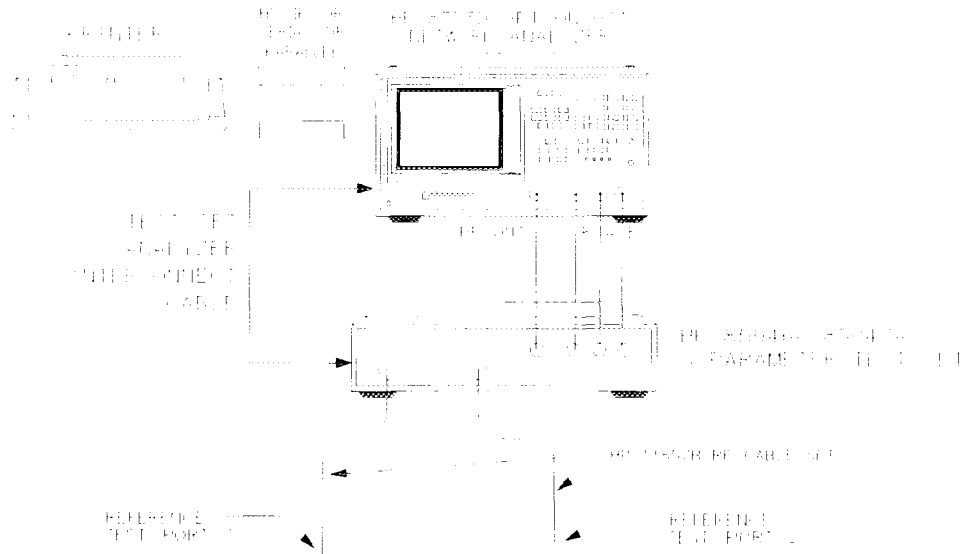

Figure 5-1. System Verification Test Setup
- 1 Connect the equipment as shown in Figure 5-1. Let the HP 8702D Option 011 warm up for one hour.